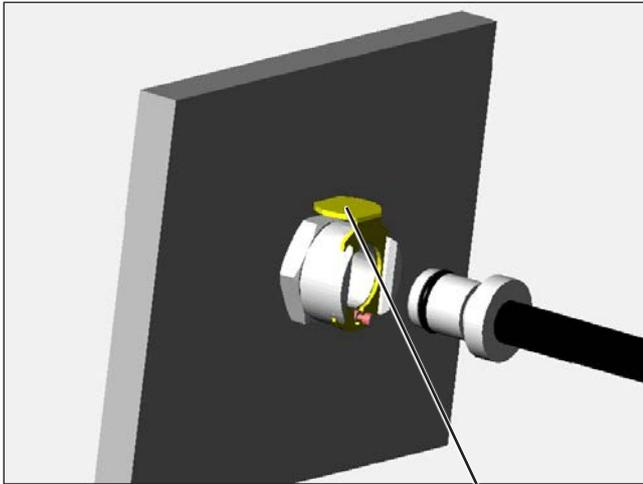

Fig. 6.
- Compressed-air hose is connected by means of plug connections; make sure that the plug attachment is engaged. The hose is disconnected by pressing the release slide (①, fig. 6) at the plug connector and by pulling out the plug attachment.